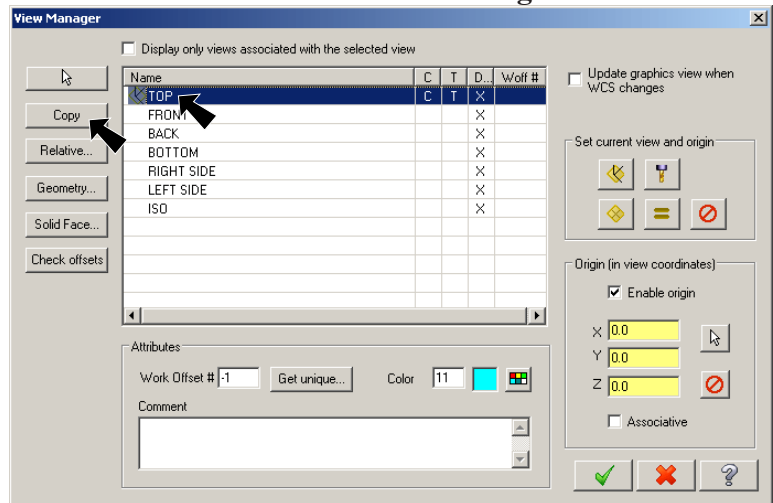

Fig. 67
Step 3. With the Top View selected, click **Copy** button in the View Manager dialog, **Fig. 67**.